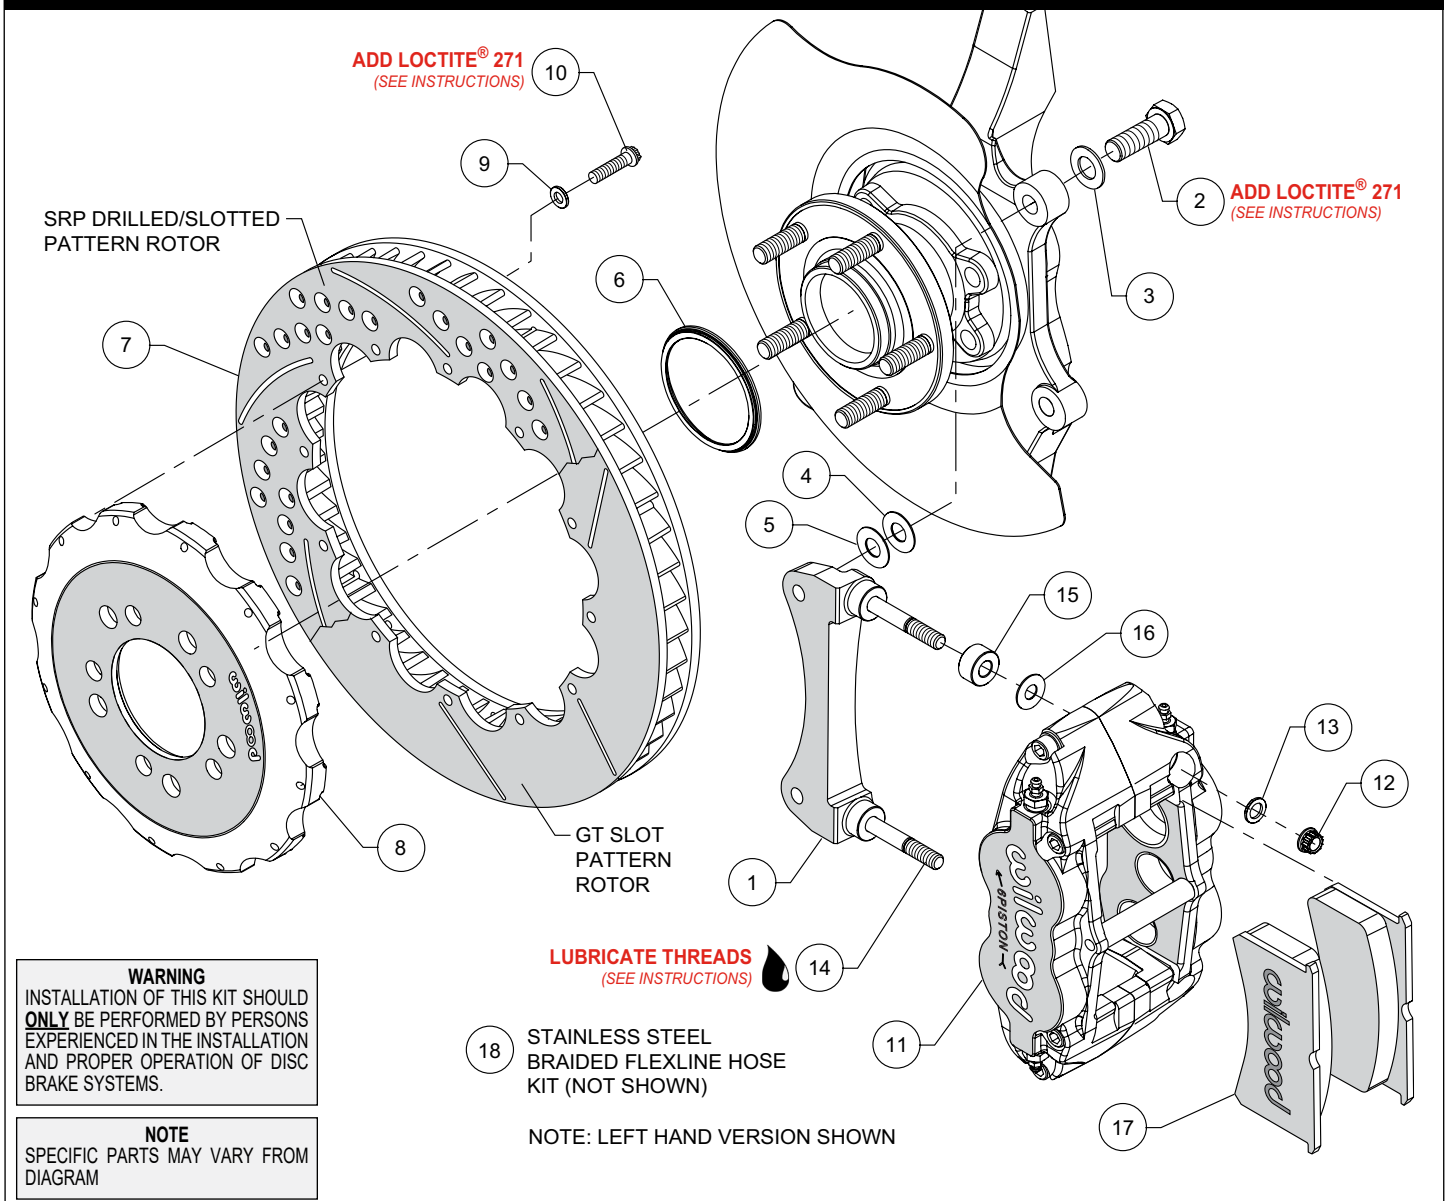
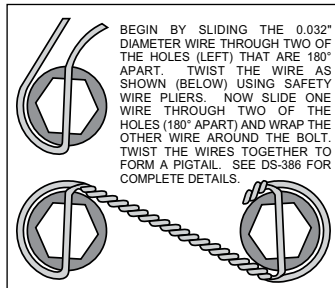

Figure 1. Typical Installation Configuration
Figure 3. Safety Wire Diagram
NOTE: Numbers in parenthesis refer to the parts list and Figure 1 on the preceding pages.
- The caliper mount bracket (1) should initially be installed with clean, dry threads on the mounting bolts. Orient the bracket as shown in Figure 1 and Photo 1, and install using washers (3) and bolts (2). Initially place one .033" thick shim (4) on each bolt between the bracket and upright, Figure 1. Temporarily tighten the mounting bolts. **NOTE:** The bracket must fit squarely against the mount bosses on the upright. Inspect for interference from casting irregularities, machining ridges, burrs, etc. Later, after the caliper alignment has been checked, the mount bolts will be secured using red *Loctite*® 271.
- Orient the rotor (7) and the hat (8) as shown in Figure 1 and Photo 2. Attach rotor to hat using bolts (10) and washers (9). Apply red *Loctite*® 271 to the bolt threads and torque to 155 in-lb using a criss-cross pattern. For an added measure of security, the bolts may be safety wired using standard 0.032 inch diameter stainless steel safety wire as shown in Figure 3. Please refer to Wilwood's data sheet DS-386 (available at www.wilwood.com/Pdf/DataSheets/ds386.pdf) for complete safety wire installation instructions.
- Slide the rotor registration adapter (6) onto the axle register on the axle hub with the smaller O.D. facing outward, Photo 3. Slide the hat/rotor assembly (7/8) onto the axle hub. **NOTE:** The hat must fit flush against the axle hub flange or excessive rotor run out may result. Install three lug nuts (finger tight) to keep the hat/rotor assembly in place while continuing with the installation.
- NOTE:** This kit contains distinct right and left hand calipers that must be mounted in a specific direction, as described below. Lubricate the caliper mounting studs (14) with lightweight oil. Initially place one .035" thick shim (16) and one spacer (15) on each stud as shown in Figure 1 and Photo 4. Mount the caliper (11) onto the bracket (1) using lock nuts (12) and washers (13), Figure 1. Ensure that the caliper is mounted so that the largest pistons are at the rotor exit end of the caliper, in relation to the direction of rotor rotation. Temporarily tighten the lock nuts and view the rotor through the top opening of the caliper. The rotor should be centered in the caliper, Photo 5. If not, adjust by adding or subtracting shims (4 and/or 5) between the bracket and the upright. Always use the same amount of shims on each of the two mounting bolts. Once the caliper alignment is correct, remove the bracket mounting bolts (2) one at a time, apply red *Loctite*® 271 to the threads, and torque to 60 ft-lb.